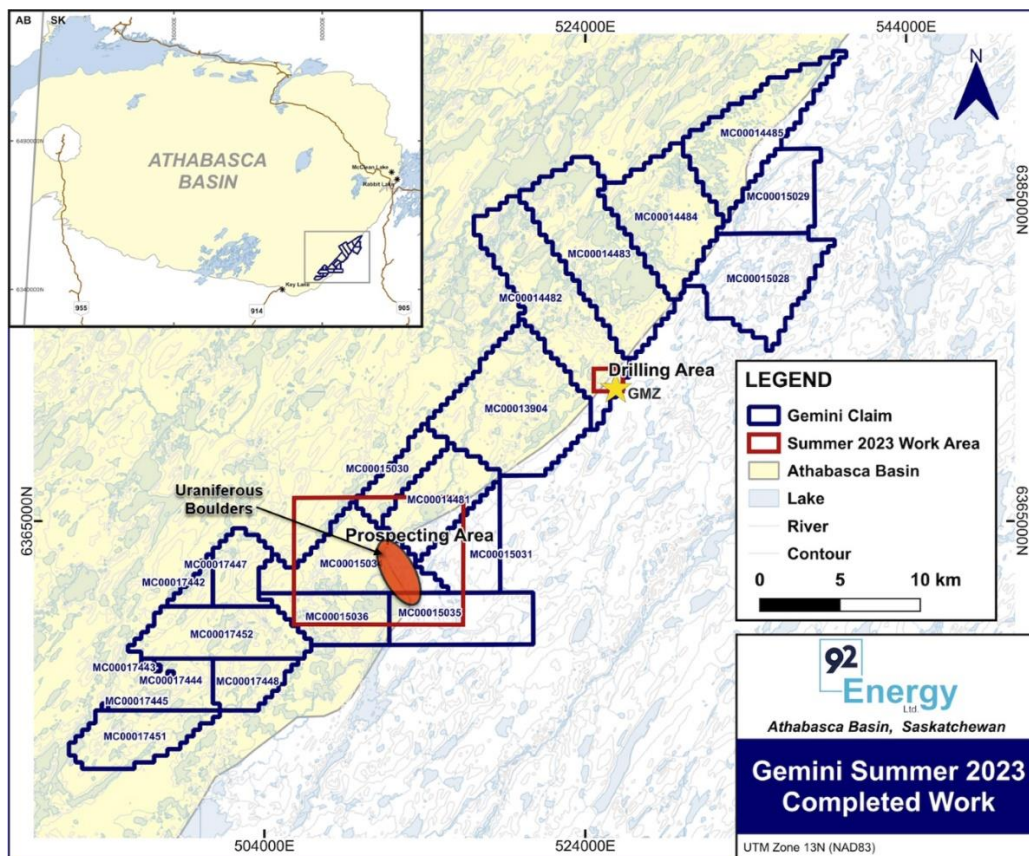

Figure 1: Gemini project claims and the summer 2023 work areas
- Assays confirm uranium and high-grade copper mineralisation along a new parallel zone, 300m east of the GMZ (Figure 1):
Prior to the start of the summer 2023 drill program, the 92 Energy technical team conducted a reconnaissance mapping and sampling program focusing on the southwestern claims of the Gemini project (Figure 1). During the sampling program, the team discovered several radioactive boulders located approximately 18km to the southwest of the GMZ. The most radioactive boulder measured approximately 35,000 CPS² on the handheld RS-125 scintillometer. A representative assay sample of the highly radioactive boulder returned 0.39% U₃O₈ (3,940ppm).